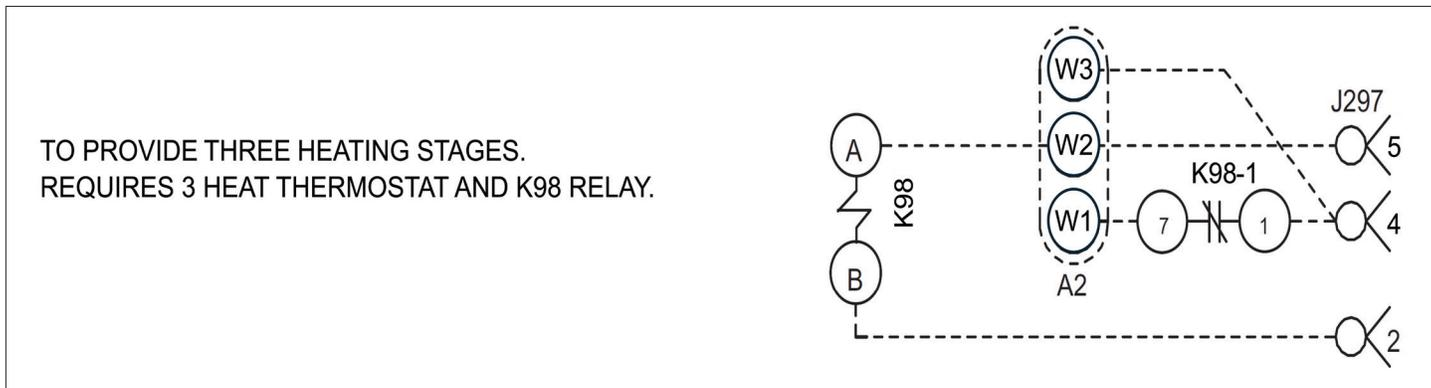

Figure 31. Third Stage Heat (Parameter 112) Wiring
- **Option 3. Three Stage Thermostat.** SH and SD units with two stage secondary heat support up to three stage operation in Thermostat mode. This option requires the use of a three stage heat thermostat and K98 relay. See "Figure 31. Third Stage Heat (Parameter 112) Wiring" on page 33 and C section control wiring diagram.